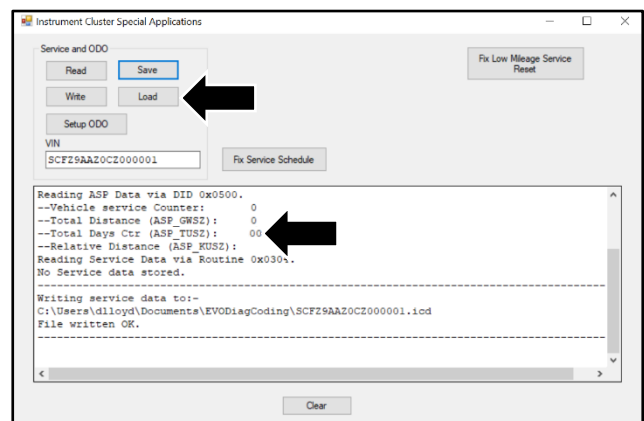

Figure 8
- Click "Load" in the "Instrument Cluster Special Applications" window (refer to Figure 8). Make sure the "Total Days Ctr" shows 00.